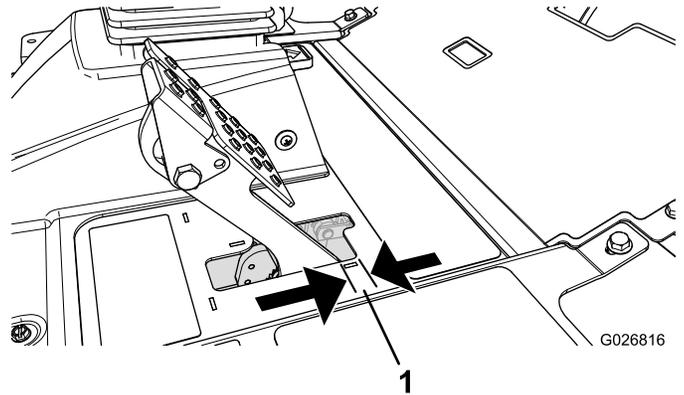

Figure 113
4. Lightly press the brake pedal; and measure the distance the pedal moves without resistance (Figure 113).
Note: Adjust the brakes if there is more than 2.5 cm (1 inch) of free travel (Figure 113) of the brake pedal, or if more parking-brake force is required.
6. Tighten the rear nuts to move the cable backward, until brake pedal has 6 to 13 mm (1/4 to 1/2 inch) of free travel (Figure 113), before the parking brake engages the wheels.